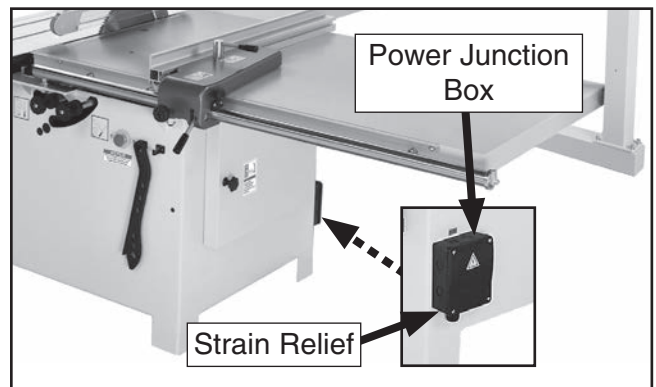

Figure 68. Location of junction box.
1. Remove power junction box cover (see **Figure 68**).